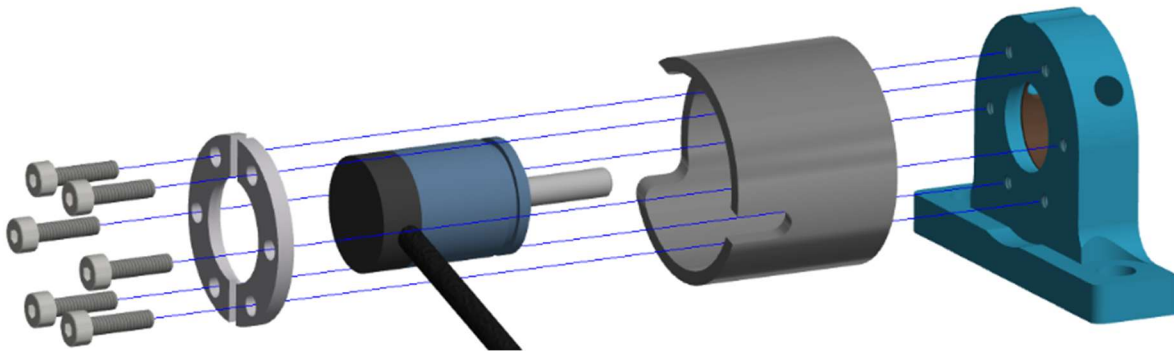

Figure 10-32. Slide the two Ankle Bushing Plates off the Ankle Center Block Assembly
10.2.28 Unscrew the six M2 X 0.4 X 8 LG. SHCS, removing the Potentiometer Clamp (472-7581) from the Potentiometer Cap (483-5825) from the Ankle Bushing Plate (474-5826) (Figure 10-32)